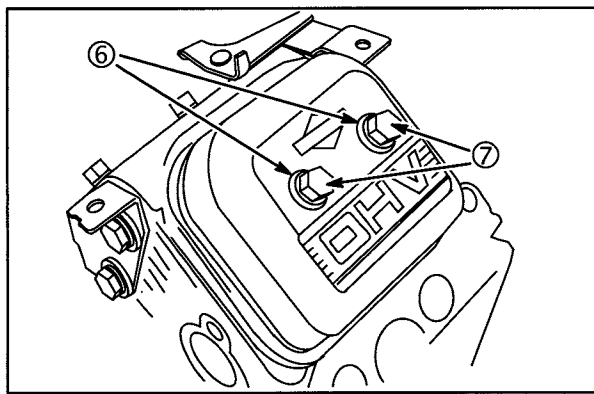

Fig. 14
2. Install valve covers with new gaskets and valve cover seals (6), Fig. 14. Torque nuts (7) to **25 in. lbs. (3 Nm)**.